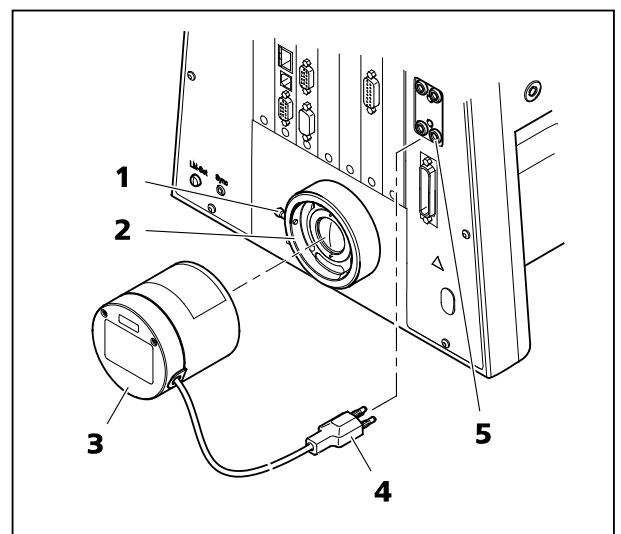

Fig. 52 Mounting the microLED attachment lamp
- Loosen clamping screw (Fig. 52/1) on transmitted-light port (Fig. 52/2). Remove the halogen lamp.
- Use an AF 3 ball-headed screwdriver and clamping screw (Fig. 52/1) to lock the attachment lamp (Fig. 52/3) with dovetail mount firmly into socket (Fig. 52/2).
- Connect the three-pin illuminator plug (Fig. 52/4) to the lower three-pole 12 V / 100 W socket (Fig. 52/5) for transmitted light (TL) on the back of the instrument.
- For the coded stand, set the transmitted-light / reflected-light toggle switch to transmitted light (TL). If the motorized stand is used, switch between reflected light and transmitted light using the TFT display touch screen.